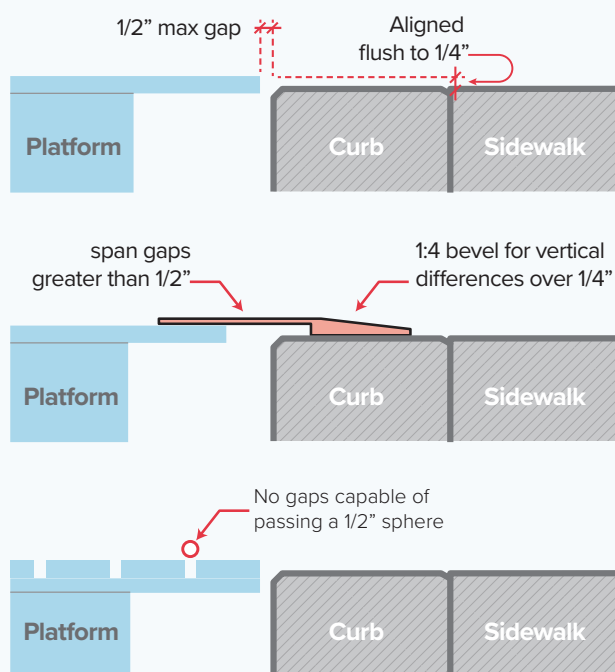

Figure 5
- Threshold:** Deck or platform must be **flush with sidewalk** and must not leave a gap greater than 1/2 inch, nor a vertical separation greater than 1/4 inch. (see Figure 5)